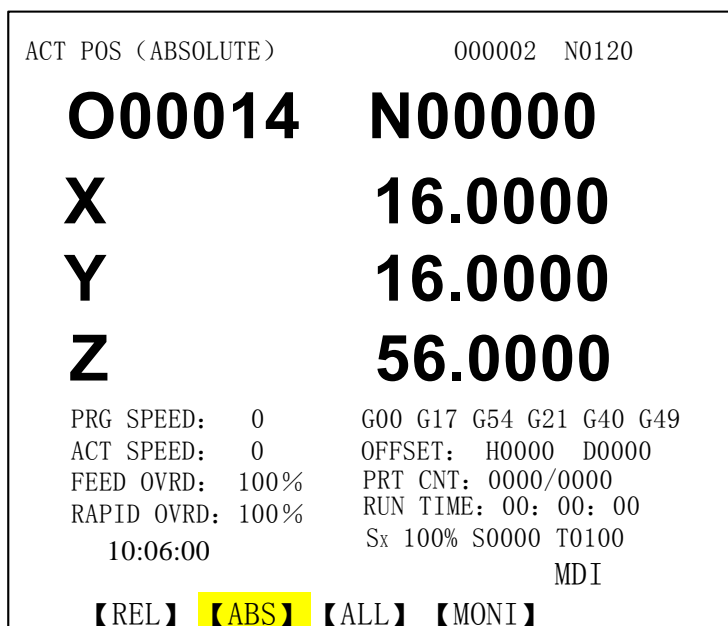

Fig. 3-1-2
2) Absolute mode: It displays the absolute coordinate of the current tool by pressing **【ABS】** soft key, which is called “absolute” in following(see Fig.3-1-2):
1) Enter a mode that displays the relative coordinate;(Fig. 3-1-2)